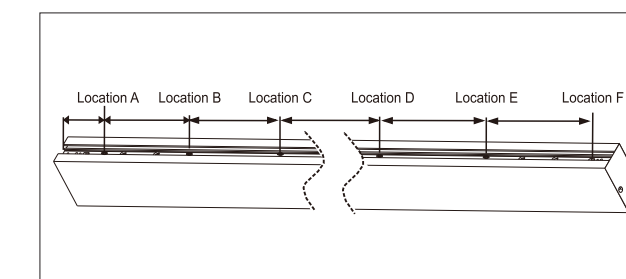

FIG 1
1. Please refer to the track installation diagram for the hole positions (fig 1). And refer to the table below for dimension spacing of the holes for surface magnetic track.